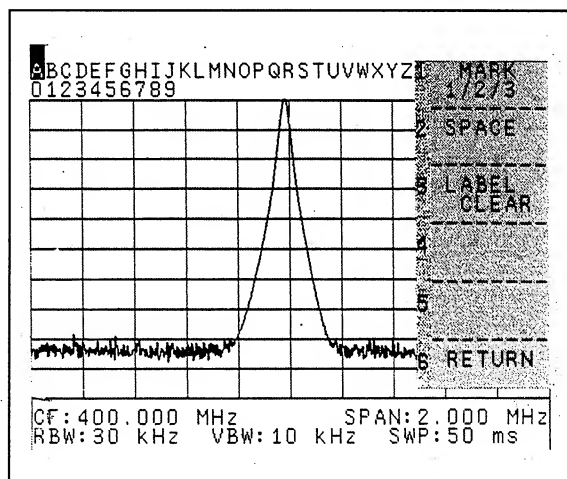

Figure 7-48 Label input screen
(1) Labeling procedure
- ① Press  ,  and the label input screen (Figure 7-48) appears.